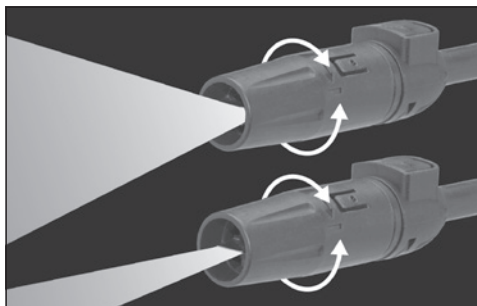

Fig. 10
8.3 Selecting the Nozzle Pattern - Fig. 10.
- Select a suitable nozzle pattern by turning the nozzle (13).